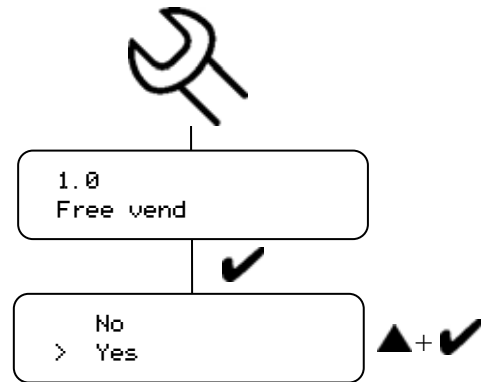

Fig. 20
7.5.1 Setting drinks vending to pay (fig. 20)